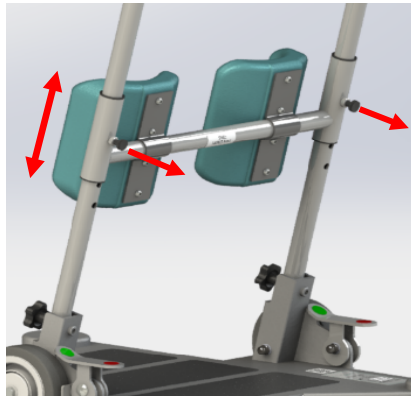

Figure 12
2. After releasing the knee/shin pad from its current location, it is now free to move up or down to the new preferred height for the patient. (see Figure 12)